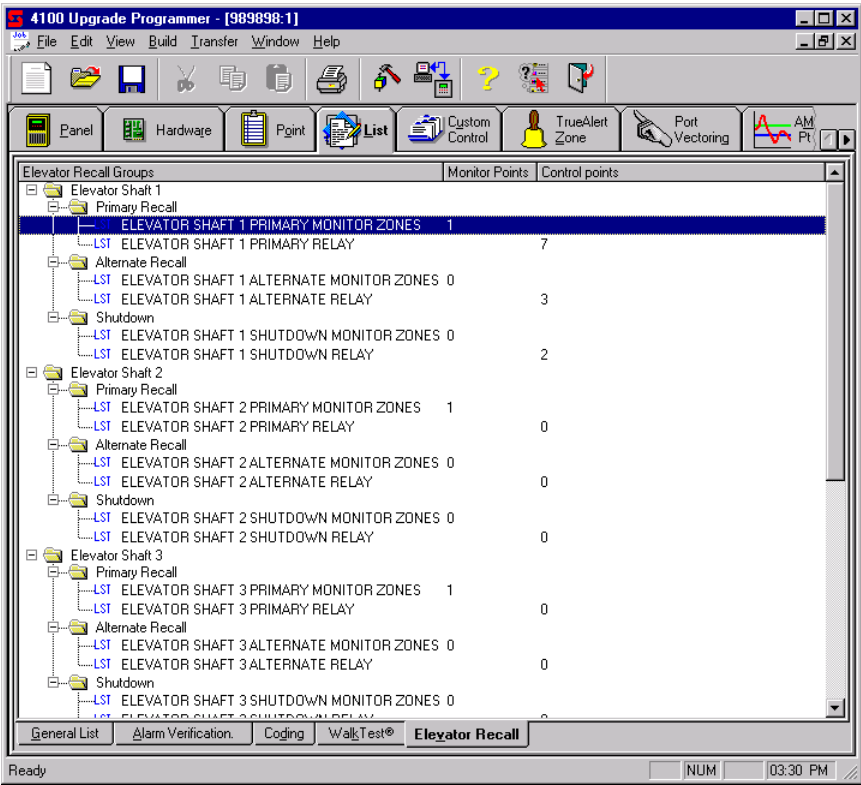

Figure 8-12. Elevator Recall Tab
2. Click on the Elevator Recall tab at the bottom of the List Window. A screen similar to the one shown in Figure 8-12 appears.